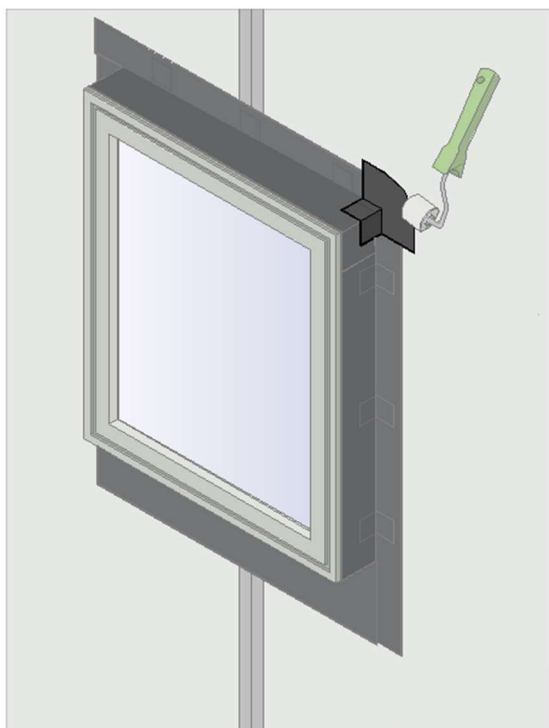

Figure 15
- Apply firm pressure with an illbruck seam roller and roll over the top of the corner where the adhesive is located underneath. The adhesive will begin to visibly ooze out from under the corner's edge. When the visible ooze is a uniform 2 – 3 mm wide along the perimeter of the corner, the adhesive is consolidated. (Figure 15).